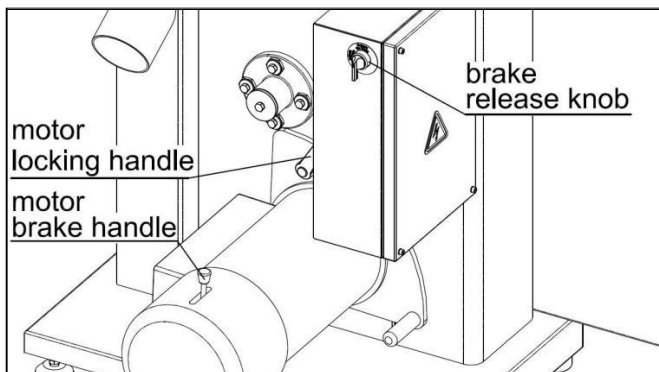

Fig. 8-5
**Note:** If the brake release knob is malfunctioning or damaged, the motor brake handle at the end of the motor can be used instead (see Fig. 8-5). Pull it as far back toward the rear of the motor as possible and maintain it in that position to allow manual rotation of the flywheel.